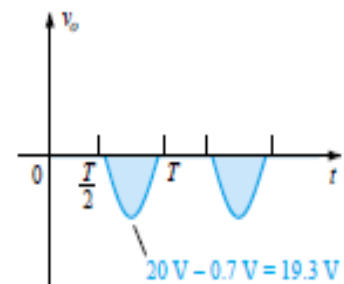

Figure 2.50 Effect of V_T on output of Fig. 2.49.
- (b) Using a silicon diode, the output has the appearance of Fig. 2.50 and